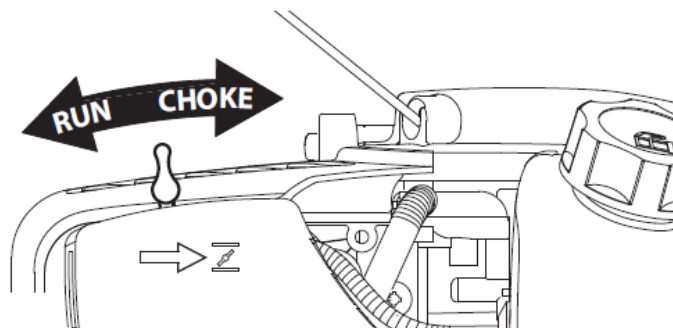

Figure 6
1. Move choke lever to CHOKE position (**Figure 6**).
Note: Half choke is defined when the choke lever is between CHOKE and RUN positions (**Figure 6**).
6. Move choke lever to RUN position and squeeze throttle to desired speed (**Figure 6**).